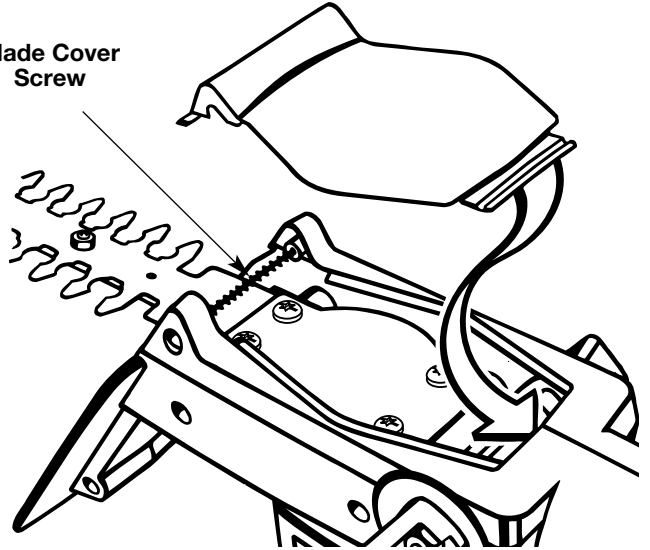

Fig. 14
9. Replace blade cover screw (Fig. 14).